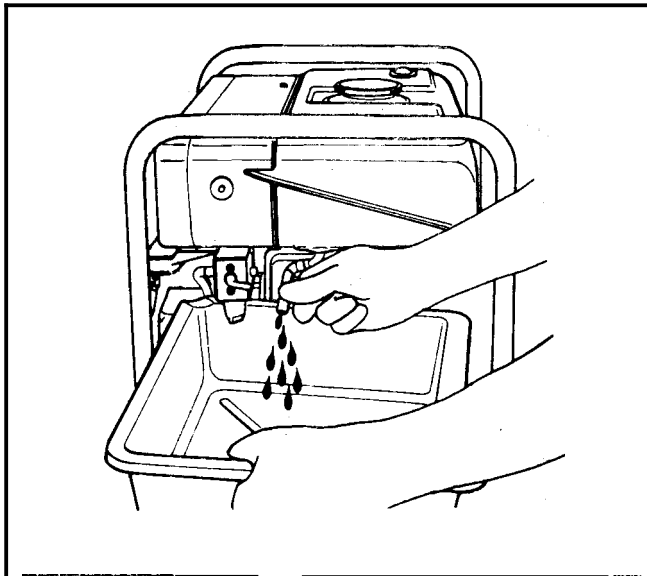

Figure 22
2. Drain the fuel tank. Remove the line on the inlet side of the fuel shutoff valve. See Figure 22.
1. Drain the fuel tank. Remove the line on the inlet side of the fuel shutoff valve. See Figure 22 on page 33.